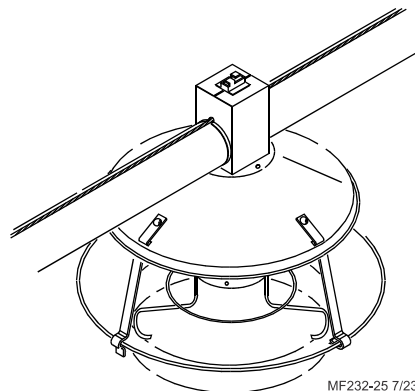

Figure 40. Winch Cable Routing
- Thread the cable through every Drop Tube to support the cable and keep it in position, see **figure 40**.